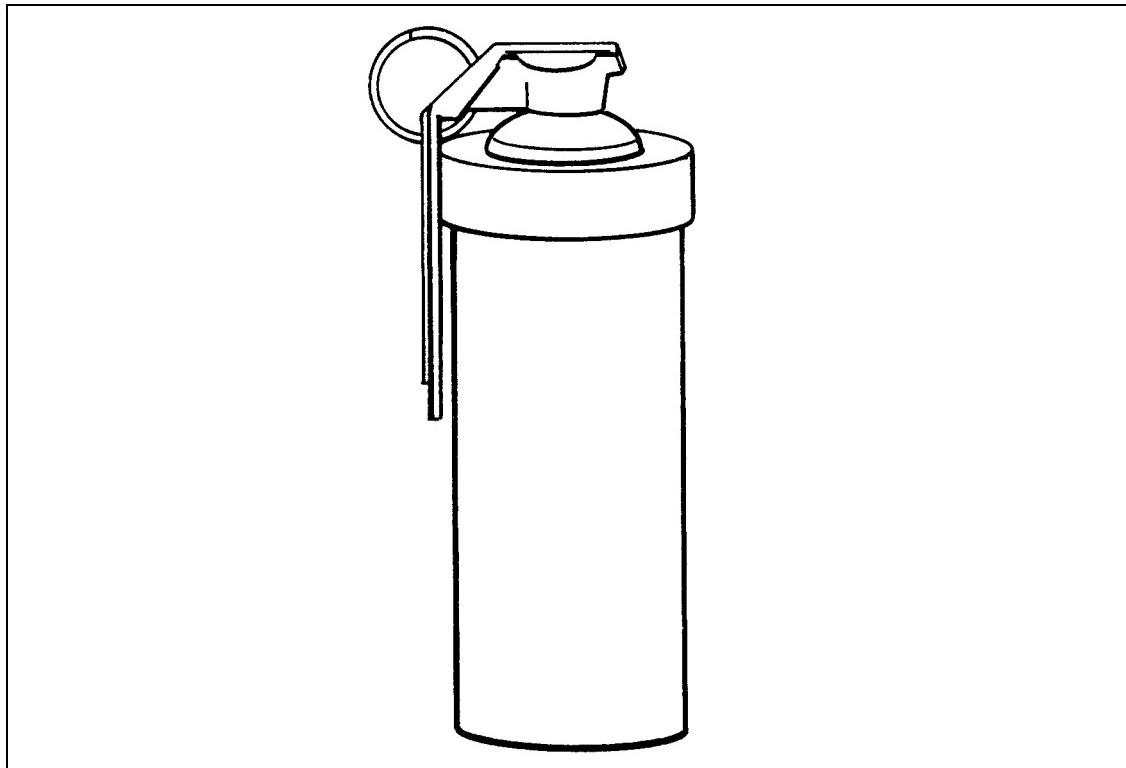

Figure F-17. Rubber bursting CS hand grenade.
- Type: Riot control, L13A1 (N225 is similar). (Figure F-17)